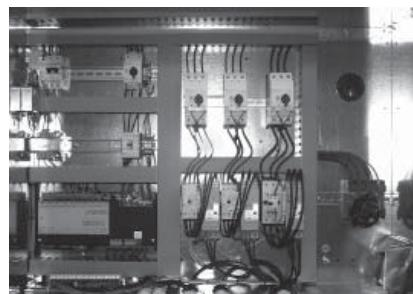
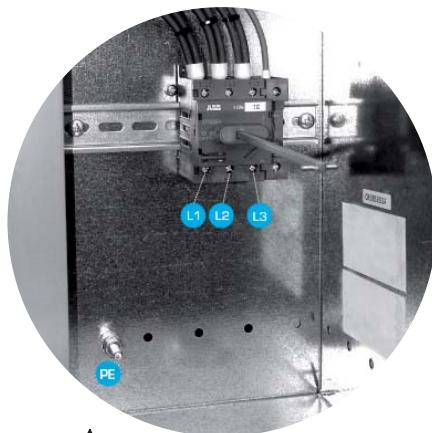

Fig.1
Fig.2
- **In case of prolonged shut-down of the unit during winter (if not added with glycol) or for other inconveniences, drain the chiller hydraulic circuit by the corresponding knobs (see fig.1 and fig.2)**
- For functional connection of the unit take the supply power cable to the electrical panel inside the unit fig.1 in the previous page and connect it to the disconnecting switch terminals observing the phase, and the earth. fig.2
Key fig. 2
The first start-up has to be carried out with the standard settings, only at last test vary the values of the operation Set Point. Before starting, power the unit for at least 12-24 hours by positioning the protection thermomagnetic switch and the door-block disconnecting switch on ON fig.1